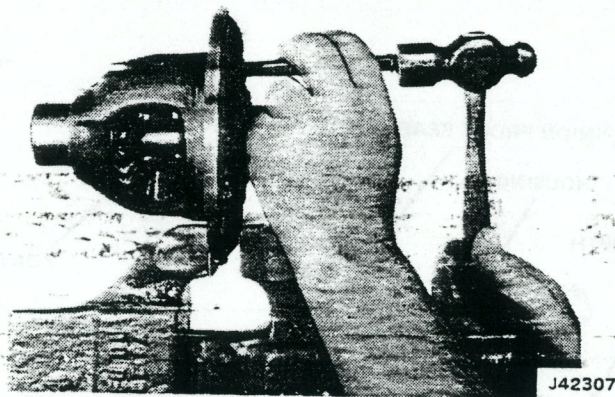

Fig. 2F-48 Pinion Mate Shaft Lockpin Removal
(12) Mount dial indicator on axle housing (fig. 2F-48). Zero indicator and be sure indicator stylus contacts one side of opening in housing.
(13) Spread housing no more than 0.020 inch (0.50 mm) using Tool J-25102. Measure amount housing is spread using dial indicator mounted previously.
(14) When housing has been spread 0.020 inch (0.50 mm), remove dial indicator.
(15) Remove differential bearing caps. Tag caps for assembly reference.
(16) Remove differential assembly using pry bars. Position pry bars under ring gear bolt head and under differential case.
(17) Remove and discard ring gear attaching bolts.
(18) Remove ring gear from differential case using brass drift and hammer. Do not attempt to wedge gear off case as case will be damaged in process.